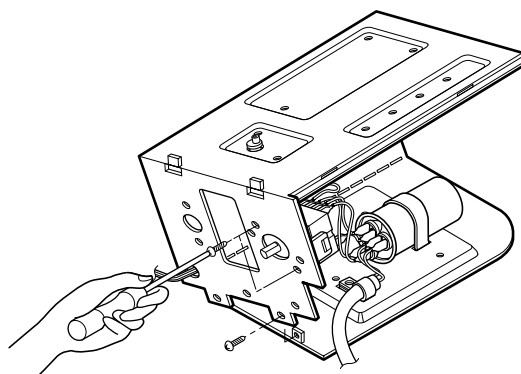

Figure 31
5. Remove the rotary switch. (See Fig. 31)